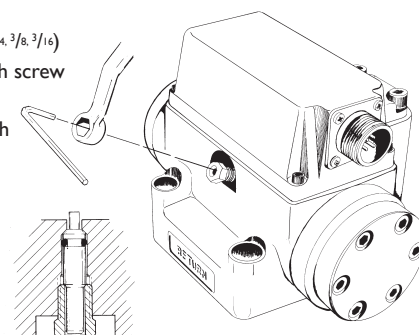

Figure 2
It is often desirable to adjust the flow null of a servovalve independent of other system parameters. The "mechanical null adjustment" on the Moog (G)72K Series servovalve allows at least  $\pm 20\%$  adjustment of flow null. The "mechanical null adjustor" is an eccentric bushing retainer pin, located above the tank port designation on the valve body (see Figure 2) which, when rotated, provides control of the bushing position. Mechanical feedback elements position the spool relative to the valve body for a given input signal. Therefore, a movement of the bushing relative to the body changes the flow null.